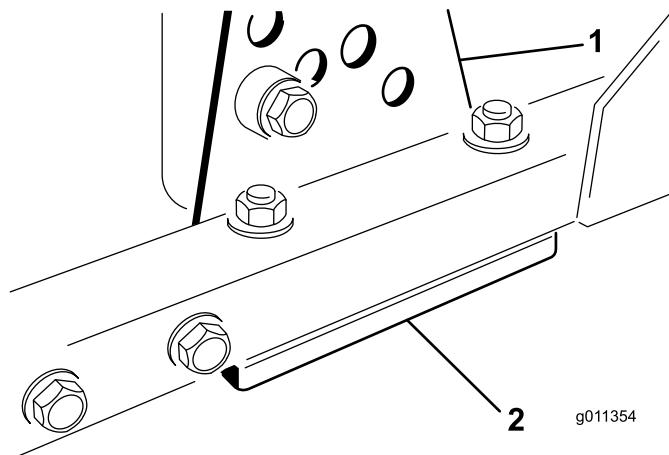

Figure 82
1. Remove the height-of-cut bracket, (front, left, or right) from the cutting-unit frame (Figure 82).
2. Adjust 1.5 mm (0.060 inch) shims and/or 0.7 mm (0.030 inch) shims between the cutting-unit frame and bracket to achieve the desired height setting (Figure 82).